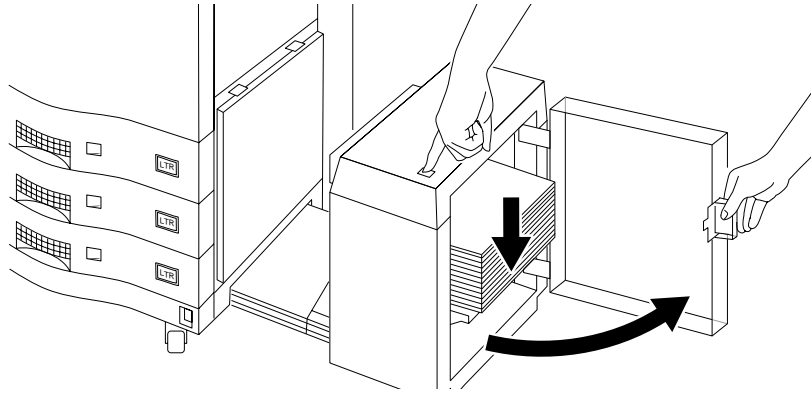

Figure 4-56 Opening the HCI
2. Open the HCI door, press the HCI top button to lower the shelf, and then remove any paper as shown in Figure 4-56. The printer must be powered on and the HCI must be connected to the printer for the HCI top button to lower the shelf.